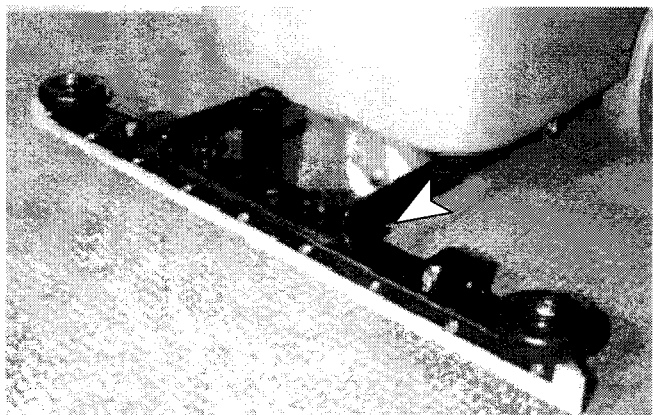

FIG. 5.
- Attach squeegee assembly to bracket. Use (2) thumb screws to secure. (Figure 5.)